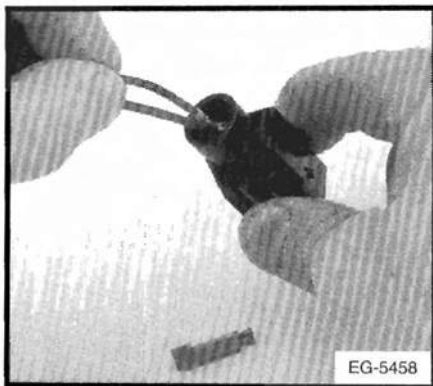

Figure 6-26. - Insert Terminal
1. Push the terminal into the connector body, deep enough so that the retaining finger snaps over the terminal shoulder (Figure 6-26.).